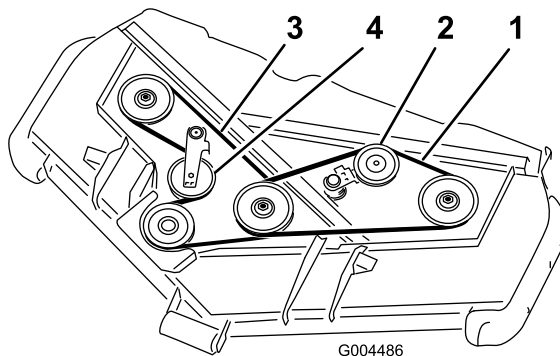

Figure 58
3. Using a breaker bar or similar tool, move the idler pulley for the top belt (Figure 58) away from the top drive belt to release the belt tension and allow the belt to be slipped off the pulleys.
4. Route a new belt around the gearbox pulley, bottom spindle pulleys, and idler pulley assembly as shown in Figure 58.
5. Route a new belt around the top spindle pulleys and idler pulley assembly as shown in Figure 58.